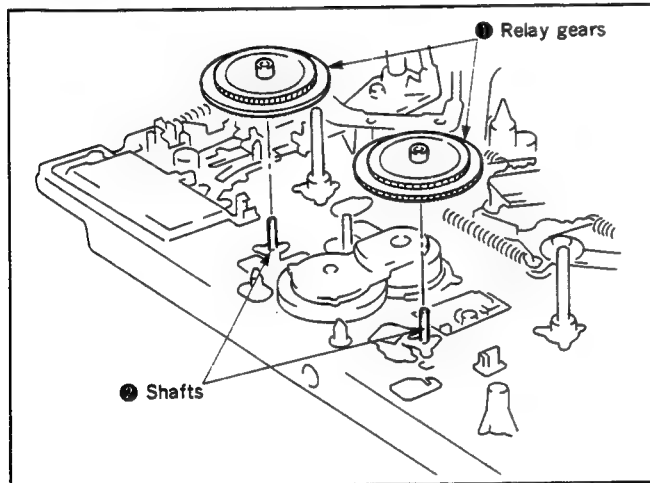

Fig. 3-26.
3-20. RELAY GEAR (Fig. 3-26)
- 2) Remove the sub-chassis. (Refer to Fig. 3-26.)
- 3) Disengage the claw ①, then pull out the limiter arm ②.
- 4) Disengage the two claws ③, then pull out the limiter slide plate ④.